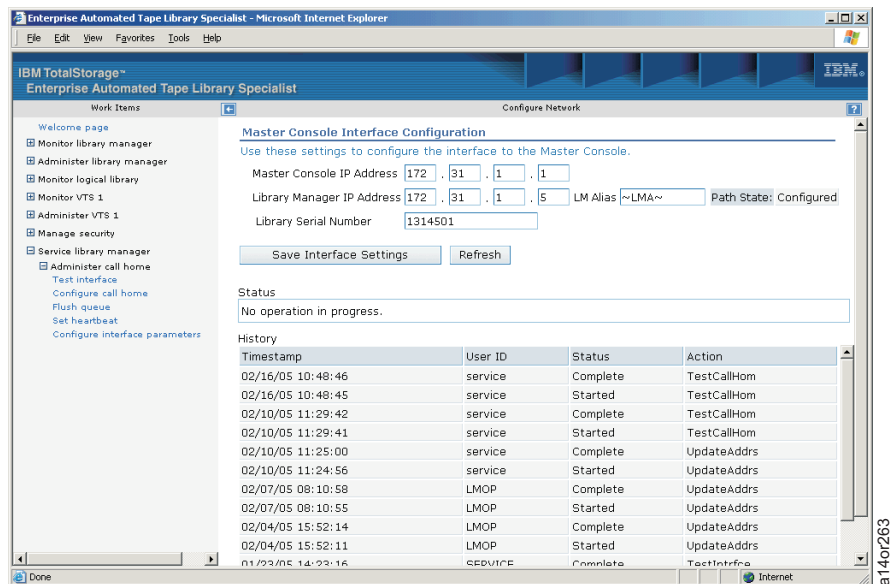

Figure 2-48. 3494 ATL Web Specialist - Configure Interface Parameters
1. From the “Administer call home” list on the Web Specialist screen (Figure 2-43 on page 2-30), click **Configure Interface Parameters** to see Figure 2-48 on page 2-34. If you are prompted for a userid and password, use the default values of **service** for the userid and **service** for the password. These values can be changed by the 3494 ATL system administrator.